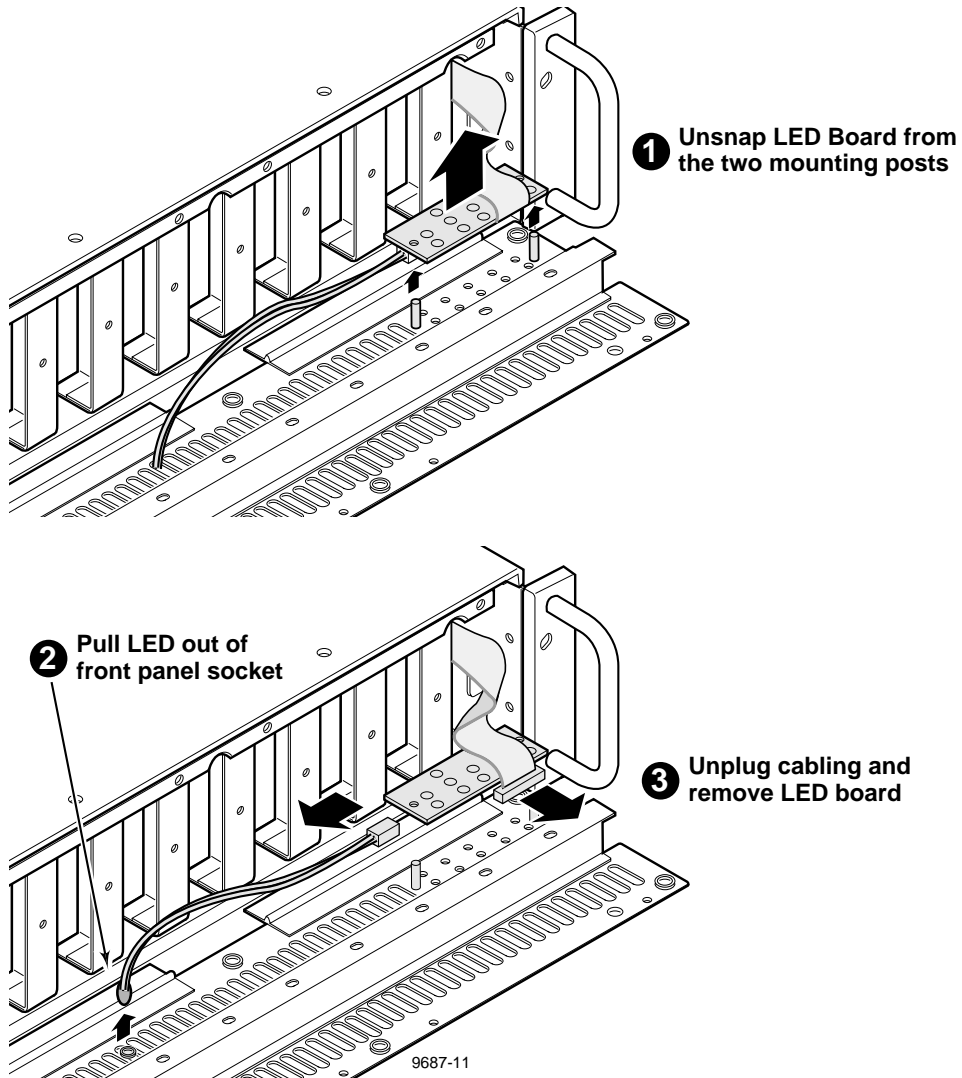

Figure 3-6. PDX208 LED Board and Cable Removal
The LED Board (item 11 in Table 3-1) is on the front panel. It is not necessary to remove the PDX208 from the rack to perform this procedure. Figure 3-6 shows removal of the LED board.
4. Unsnap the LED board from the mounting posts (Figure 3-6) by pulling the board straight up from the front panel.
2. Position the LED board over the mounting posts in the front panel and firmly press down until the LED board snaps into place (Figure 3-6).
This cable assembly (item 12 in Table 3-1) connects from the LED board to the front panel power LED. It is not necessary to remove the PDX208 from the rack to perform this procedure. Figure 3-6 shows removal of the LED cable assembly. To remove LED cable assembly:
5. Disconnect the LED cable assembly from the LED board (Figure 3-6).
1. Connect the new LED cable assembly to the LED board (Figure 3-6).
3. Position the LED board over the mounting posts on the front panel and firmly press down until the board snaps into place (Figure 3-6).